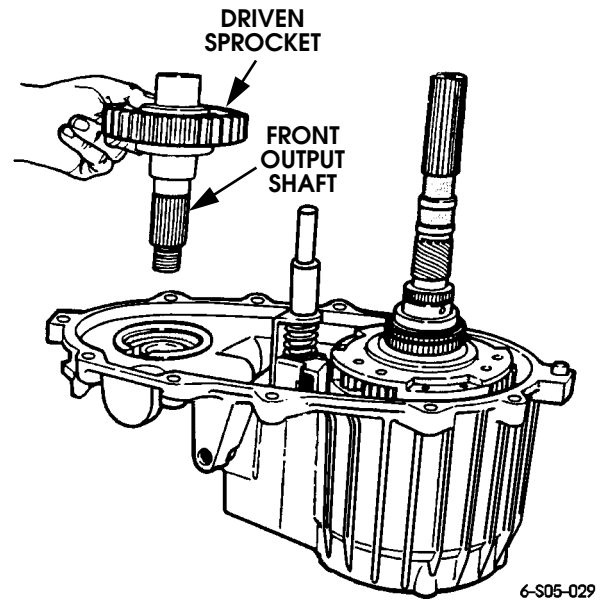

Figure 5-95: Front Shaft and Driven Sprocket Removal
14. Remove front output shaft and driven sprocket as assembly (Figure 5-95).